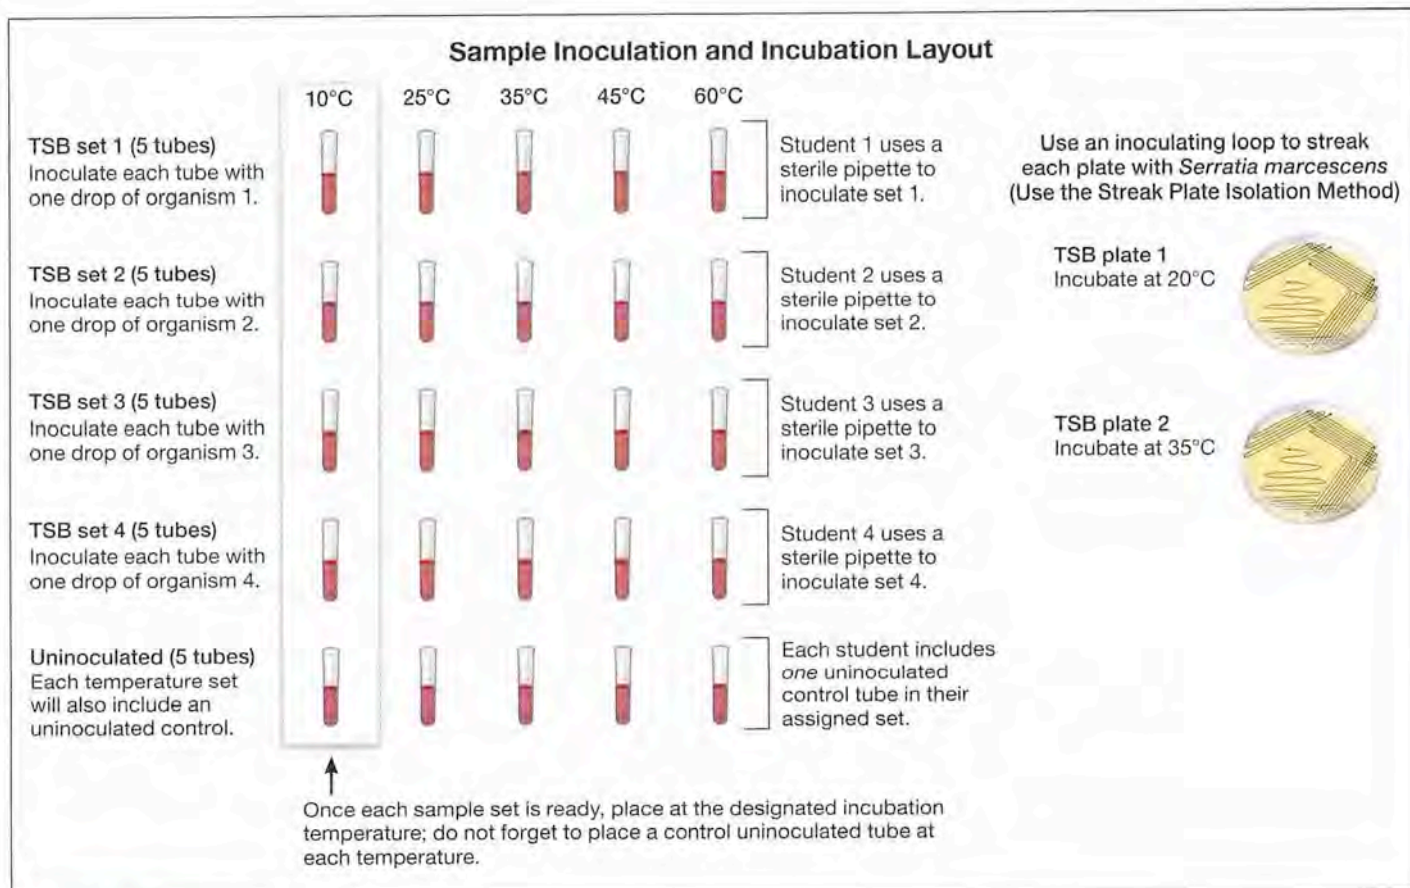

FIGURE 20.3 Broth and Plate Sample Organization and Inoculation Process •
- 2 Label Your Tubes:** Label your tubes so that you have designated one broth for each organism at each temperature plus one for an uninoculated control (Fig. 20.3). Label one TSA plate for 20°C *S. marcescens* and the other for 35°C *S. marcescens*. Each student should choose one or two stock cultures from the options your instructor provides to inoculate. Divide the work load with your lab partner(s) as evenly as possible.
- **Broth Inoculations:** Mix each stock sample thoroughly, but be careful not to splash the culture into the tube cap. Then, using a sterile transfer pipette, inoculate each set of TSB tubes with 1 drop of organism (be consistent). Refer to Figure 20.3 for guidance on this. You may fill the pipette with about